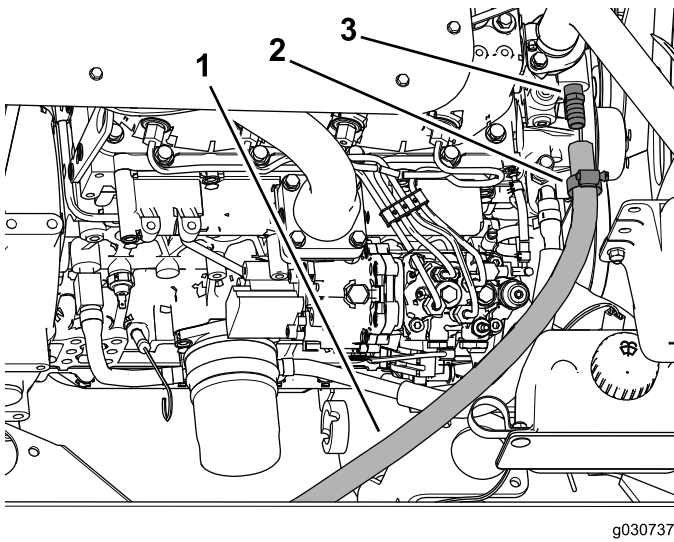

Figure 37
5. Slide the hose clamp over the supply hose and then insert the hose over the fitting (3/8 NPT x 0.625 barb) as shown in Figure 37.